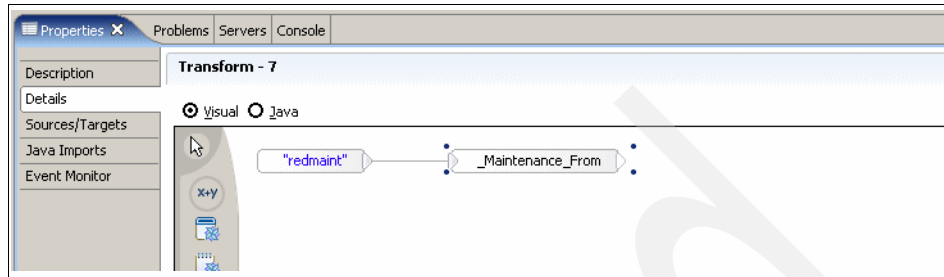

Figure 2-34 Custom assign
25. In the visual view, assign redmaint to the From property of \_Maintenance, as shown Figure 2-34.